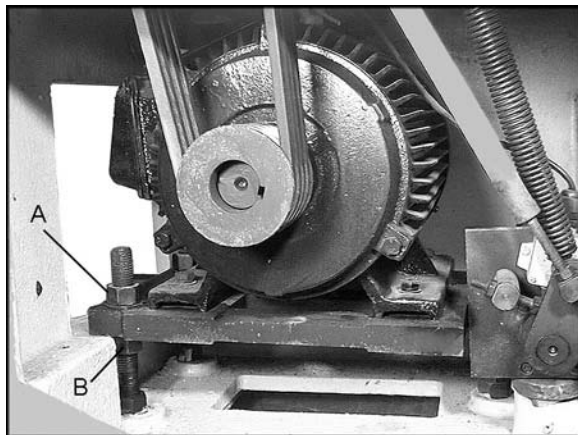

Figure 28 – Belt adjustment
3. Loosen upper hex nut (A, Figure 28). Place scrap piece of wood under motor to act as lever. Lift motor up and block temporarily.
6. Tension belts by loosening lower nut (B, Figure 28) and tightening upper nut (A, Figure 28) until light finger pressure causes approximately 3/4" deflection on each belt.